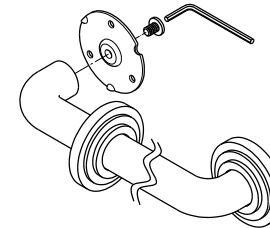

Fig. 2
- Step 2. Attach mounting plate and secure by threading Allen bolt.(included)(Fig.2)